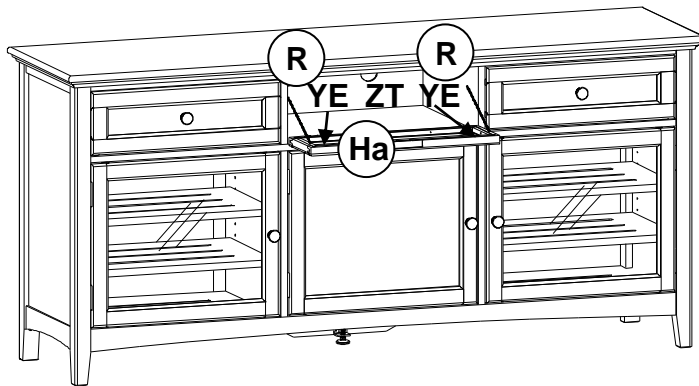

Fig. 4
4. To open the Speaker Door (Ha), press both corners until the magnets release. Gently grasp the finger groove in the top middle of the door and pull open. To shut the door, push gently but firmly on the Speaker Door until the Tuscan Magnetic Plates (YE) make secure contact with the Magnetic Push Locks (R). See Figure 4.